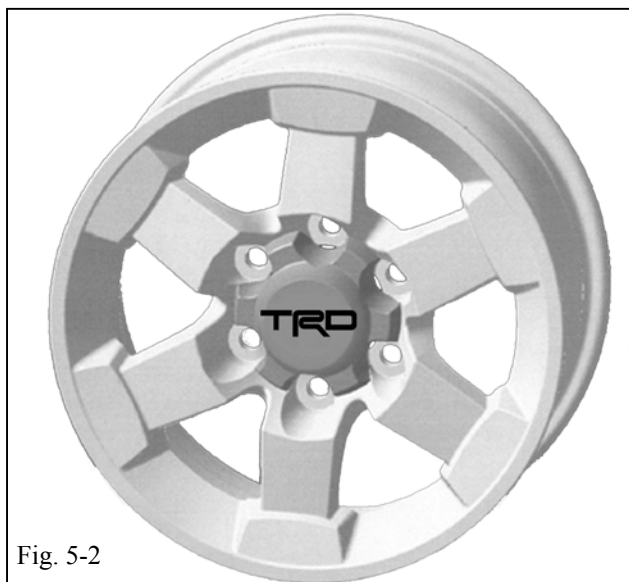

Fig. 5-2
- (b) **NOTE:** Be sure that the TRD text on the center cap for the spare wheel is installed in its upright position, as shown in Fig 5-2.